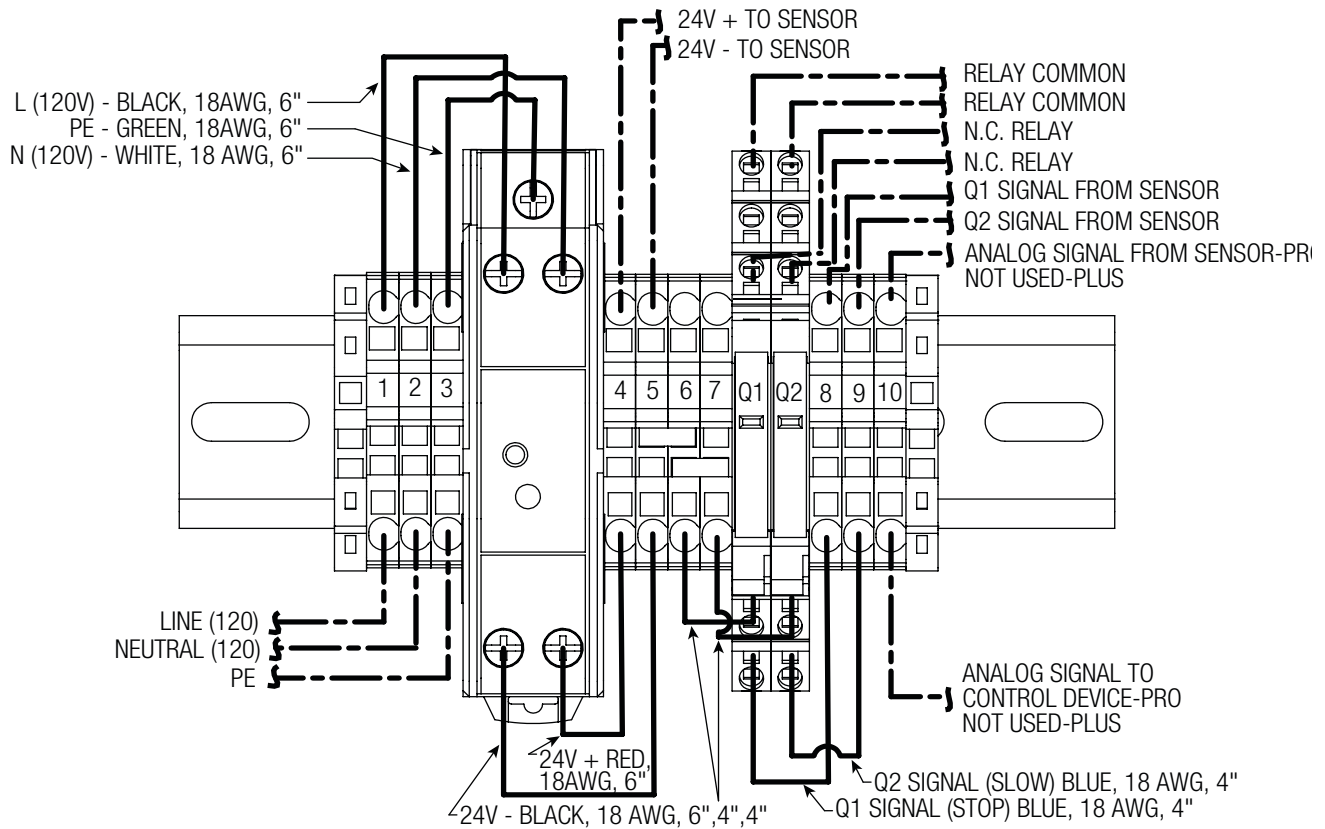

Figure 4-5
4.3.1 Below is the controller wiring diagram for reference if experiencing issues. See **Figure 4-5**